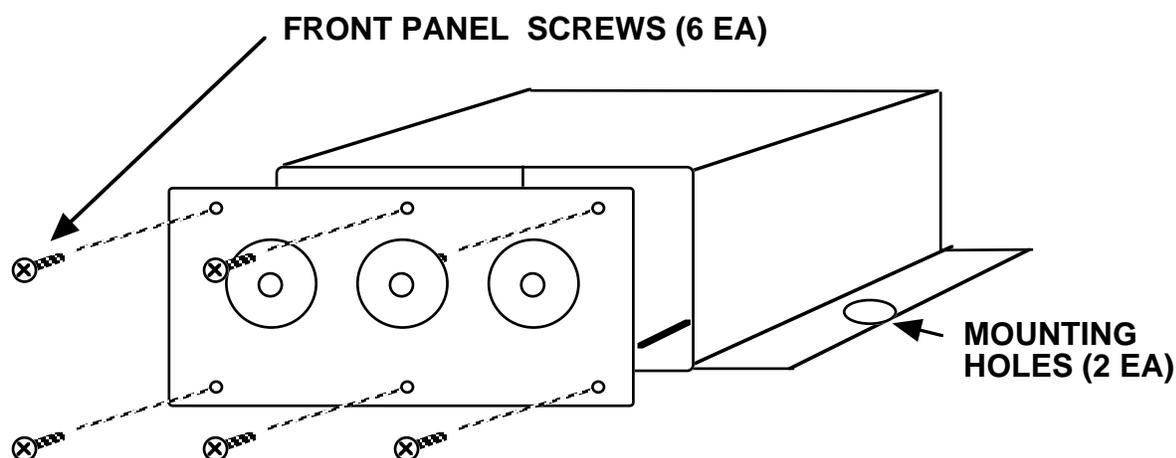
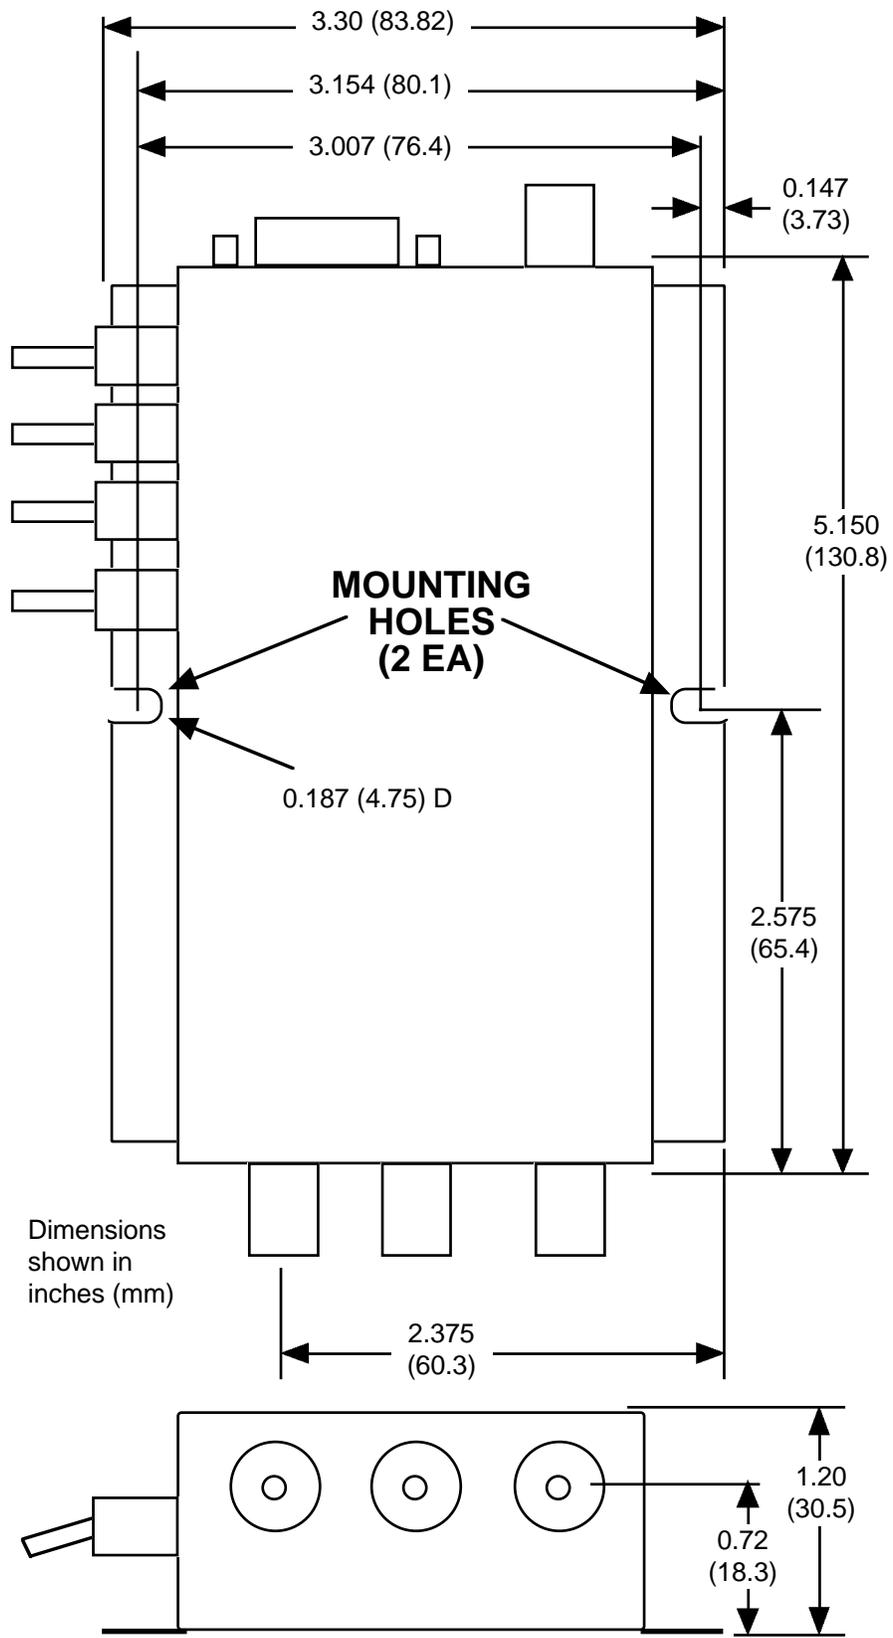

FIGURE 2.1 70421 Assembly Drawing
FIGURE 2.2 70421 Package Dimensions
The 70421 is packaged in an aluminum chassis. The unit can be mounted to a panel using the 2 holes at the bottom side flange. The unit derives +24 VDC from pin 5 and Ground from pin 9 of J4, the DB9 Control connector. (See Figure 2.1 and Figure 2.2).
1. Secure the 70421 to a panel using the two bottom mounting holes (see Figure 2.1 and Figure 2.2)